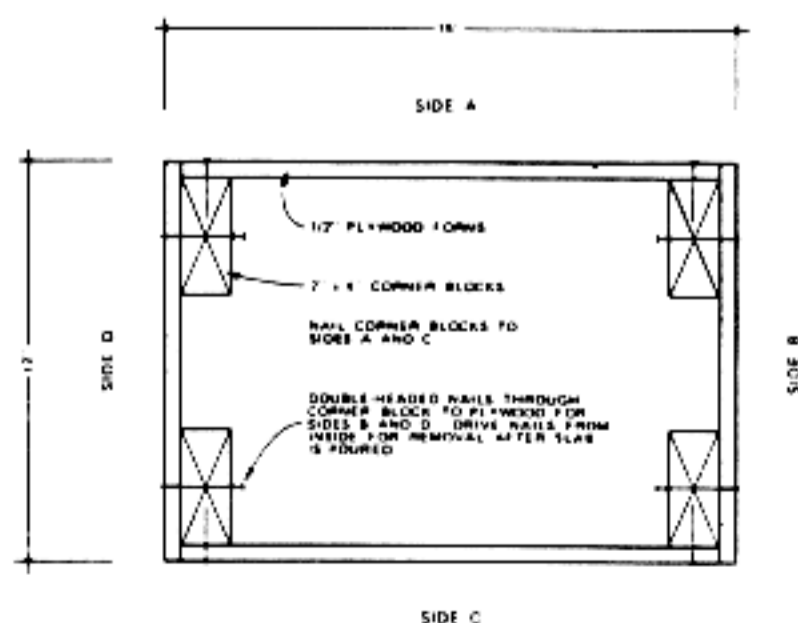

Figure 29. Construction of removable forms for the sump
**Step 3.** Construct and install the form for the sump, as indicated in Figure 29. The sump form must be constructed in a manner that allows its removal after the concrete has set up. The top of the sump form should be set 1/2" lower than the top edge of the floor slab edge forms. The floor slab, when poured and screeded, then will have a positive sloop for drainage into the pit.